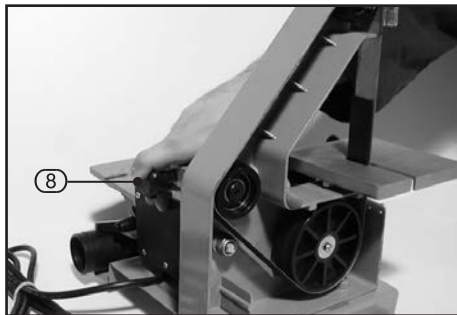

FIG.12
9.5 REPLACING THE SANDING BELT AND TRACKING - FIG. 12